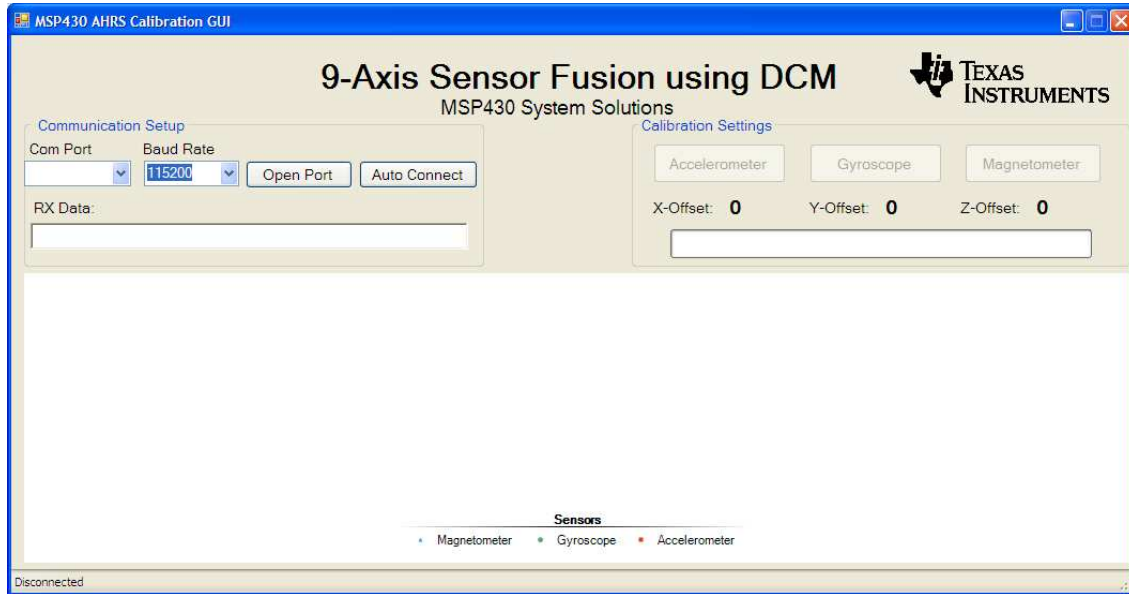

Figure 6. AHRS Calibration GUI
- AHRS Calibration GUI (See Figure 6)
This section covers how to calibrate the DCM sensors using the 9-Axis Sensor Fusion Calibration GUI (see Figure 6). The X, Y, and Z offsets calculated for each sensor must be updated inside `calibrationSensors()` in `AppRoutines.c`.